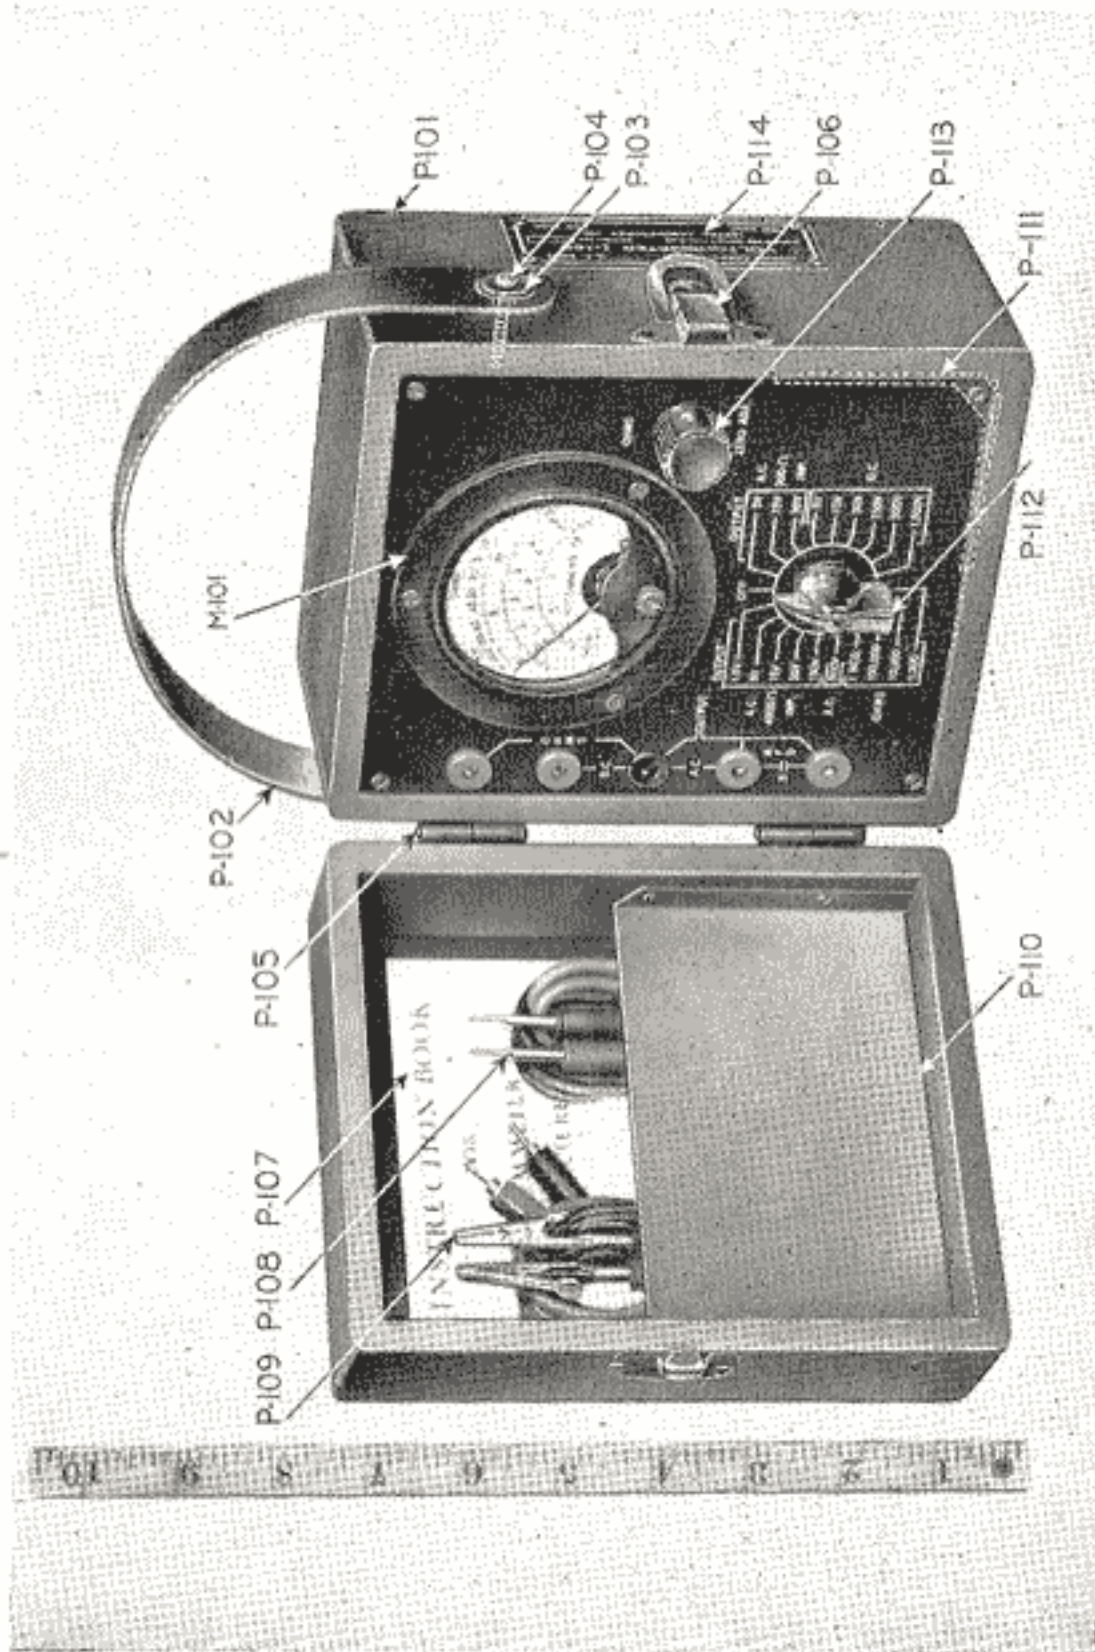

Figure 1. Voltohmmeter I-166, front view, case open.
a. The panel arrangement of this voltohmmeter is shown in figure 1. Below the meter dial is the selector switch which changes measurement ranges. To the right of the meter dial is the OHMS ZERO ADJ. control.